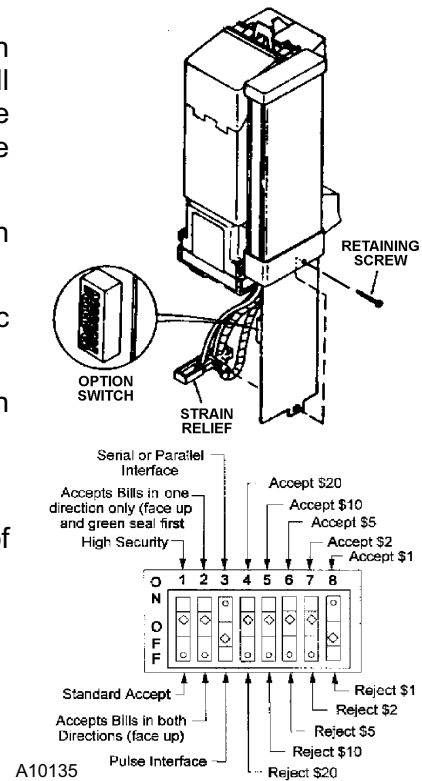

FIGURE 13. Validator Option Switches
2. Remove the retaining screw that secures the logic board and strain relief. see Figure 13.